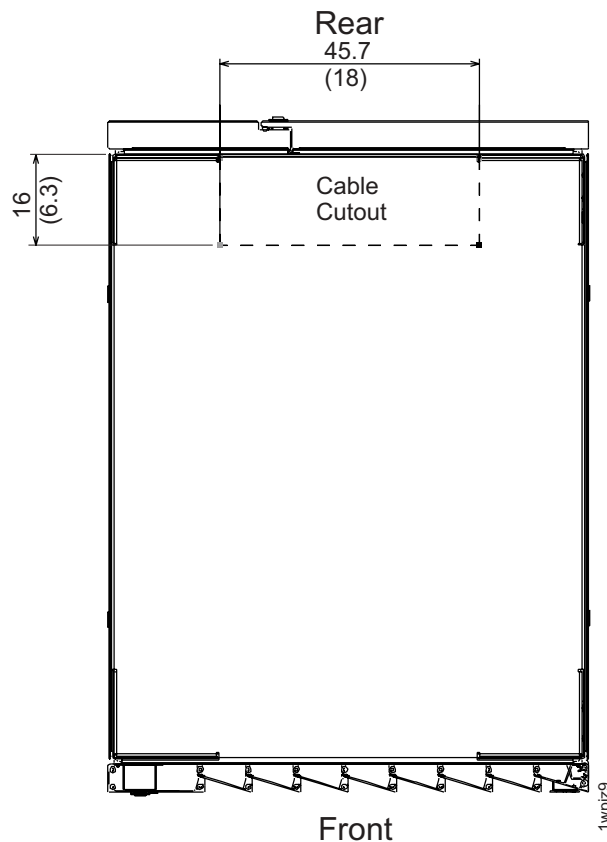

Figure 14. Cable cutouts for a DS8000 unit.
1. Based on your planned storage unit layout, ensure that you can accommodate the locations of the cables exiting each unit. See Figure 14 for the location of the cable cutouts.